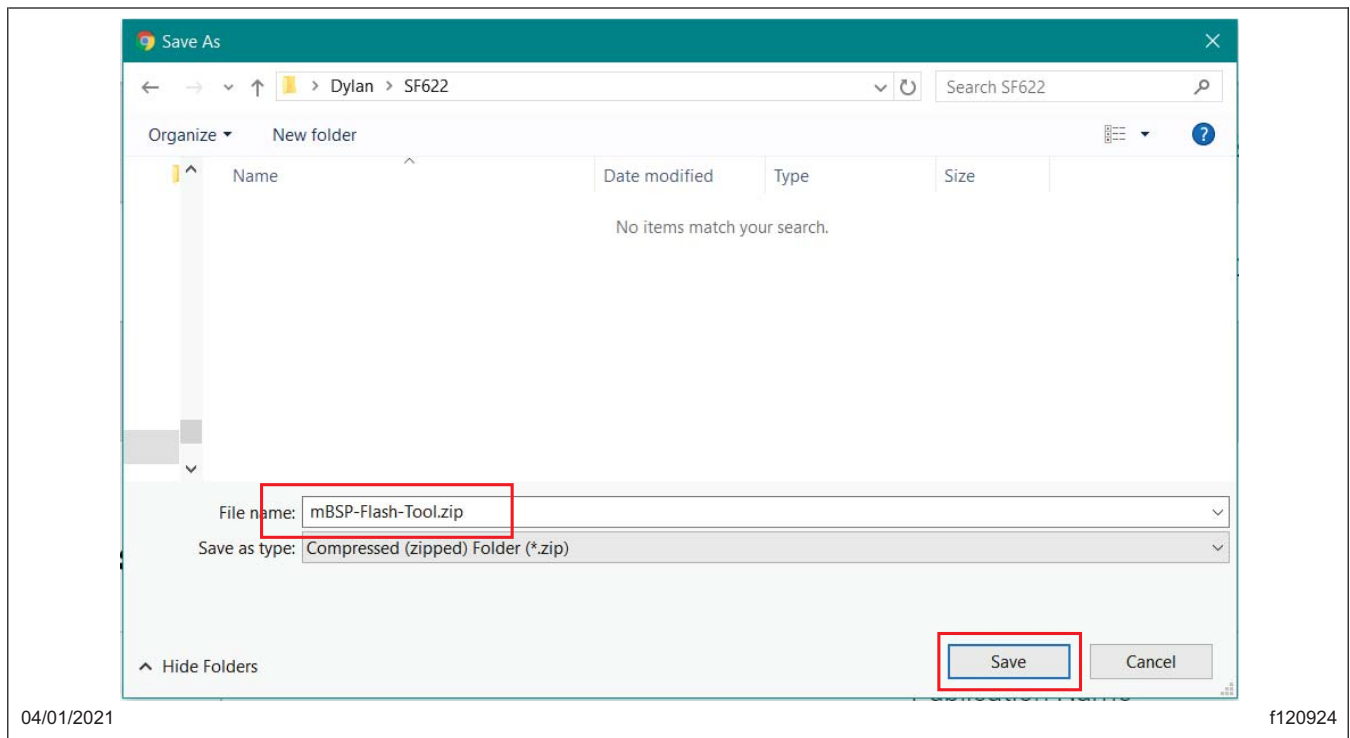

Fig. 4, Saving mBSP Flash Tool Package
5.3 Save the 'mBSP-Flash-Tool.zip' file to a location on your local hard drive. See Fig. 4.